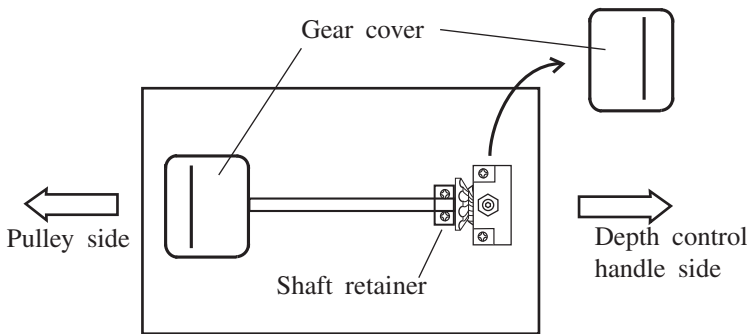

Fig.8A
- (4) Remove gear cover on depth control handle side. (See Fig.8A.)